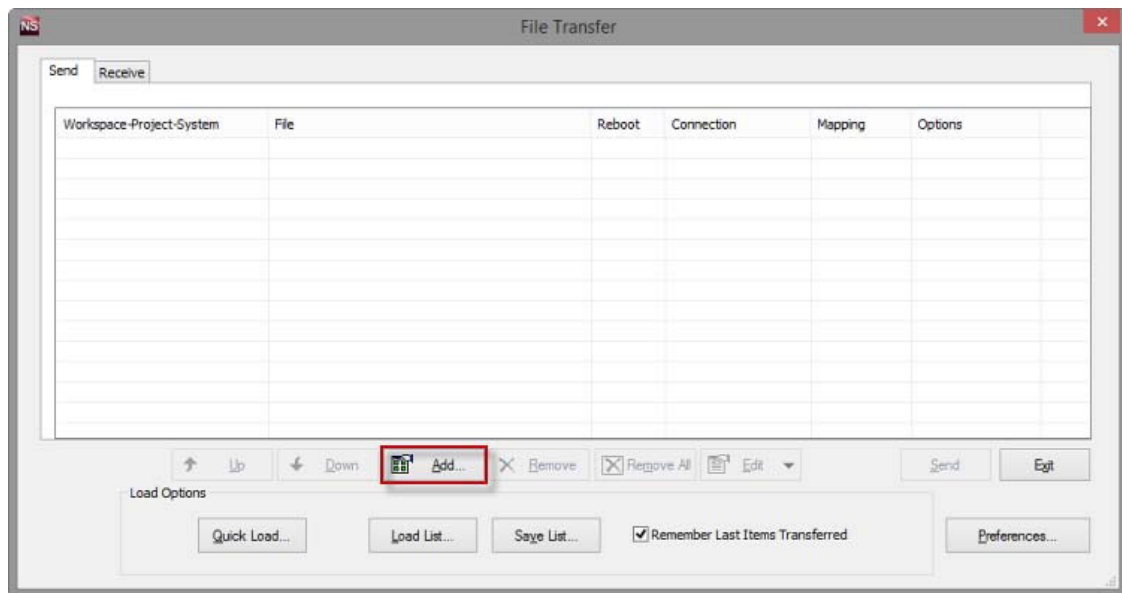

Fig. 164 NetLinx Studio 4 - File Transfer dialog
1. In NetLinx Studio 4, select **Tools -> File Transfer** to open the *File Transfer* dialog - *Send* tab (FIG. 164):